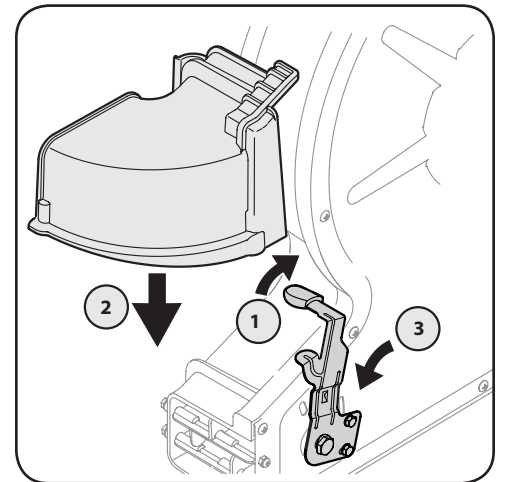

Figure 4-4
1. Pivot the blower direction lever all the way to the right, into the highest position. See Figure 4-4.
3. Pivot the direction lever to the middle position to lock the chute attachment in place. See Figure 4-4.